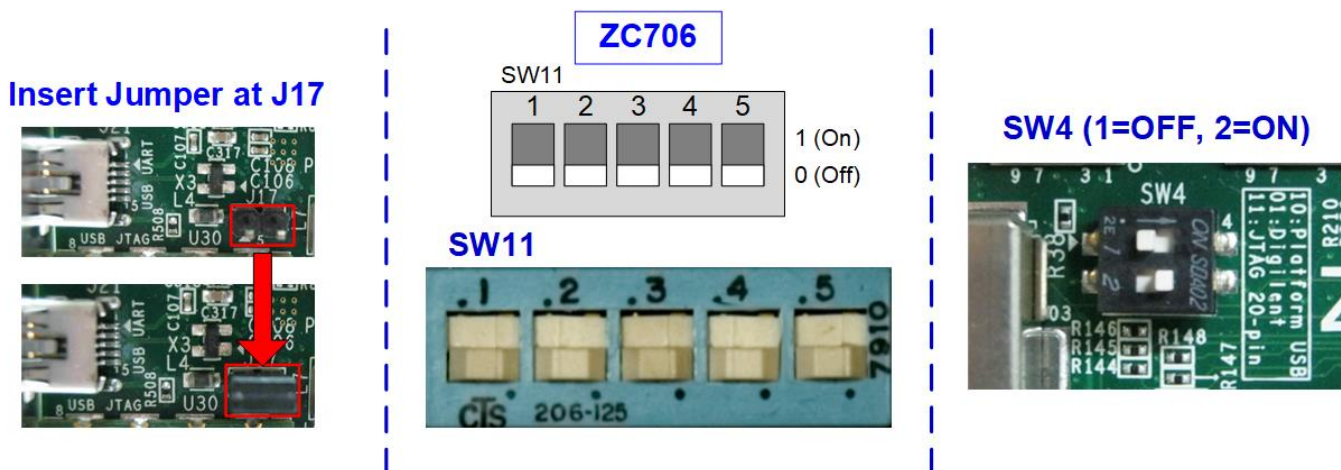

Figure 1-6 ZC706 board setting
- a) Board setting on ZC706 board is shown in Figure 1-6.